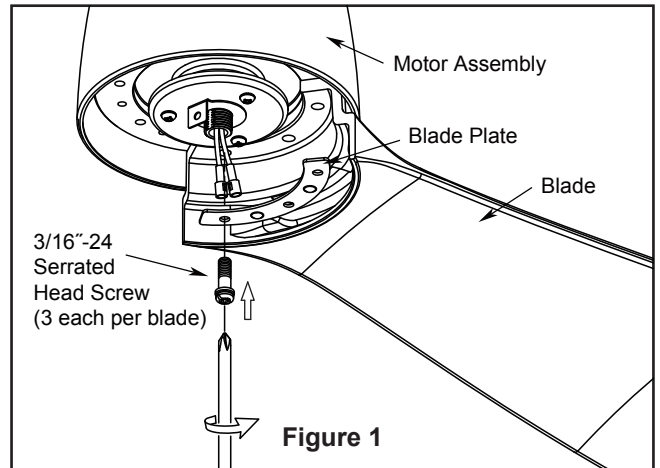

Figure 1
1. Assemble canopy by rotating key slot in canopy over shoulder screw in hanger bracket, taking care not to pinch the wires. Tighten shoulder screw. Fully assemble and tighten second shoulder screw that was previously removed. (Figure 1)
1. Align blade holes with posts on the motor assembly flywheel. Make sure the blade is fully seated against the flywheel. Place blade plate over the blade with holes aligned and assemble blade to flywheel using serrated head screws. Fully tighten the screws that attach the blades to the motor assembly flywheel. (Figure 1)